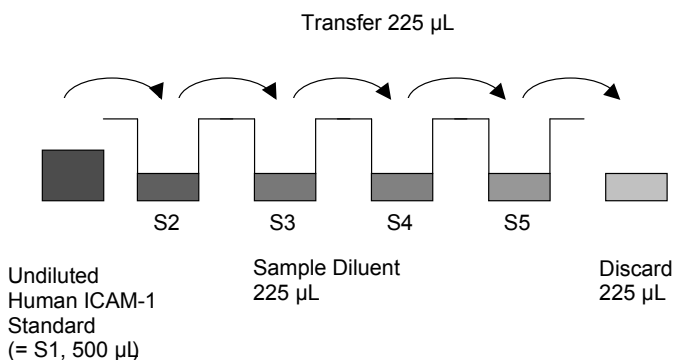

Fig. 5 Dilute standards - tubes.
4. Repeat serial dilutions 3 more times thus creating the points of the standard curve (see Figure 5).